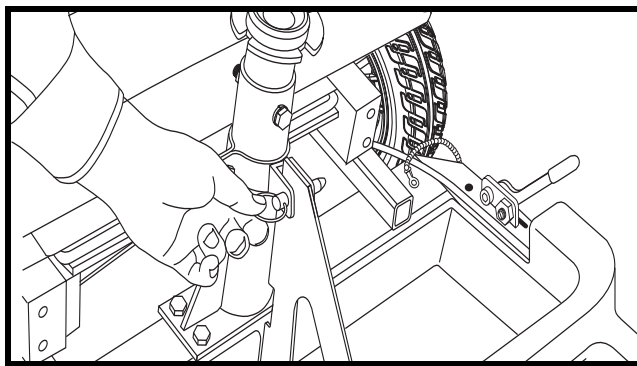

Figure 24. Frame Handle Ball Detent Pin
9. Remove the frame handle ball detent pin. See figure 24.